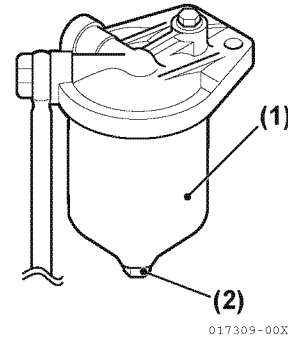

Figure 6-75
3. Loosen the drain plug (Figure 6-75, (2)) on the bottom of the water separator (Figure 6-76, (1)) and drain off any water or dirt.
9. Ensure drain plug (**Figure 6-75, (2)**) and (**Figure 6-76, (1)**) is securely tightened.